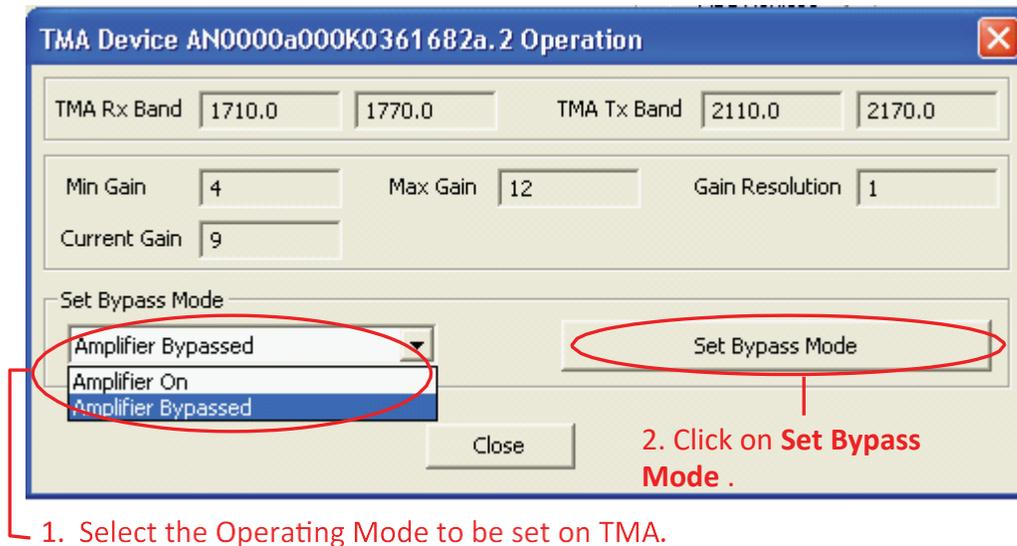

Figure 14-2. Selecting new Operating Mode for TMA
4. The **TMA Device ...Operation** screen will appear (Figure 14-2).
5. Select the appropriate operating mode from the drop down list (Figure 14-2).
6. Click on Set Bypass Mode button to apply the new operating mode to be sent to the TMA (Figure 14-2).